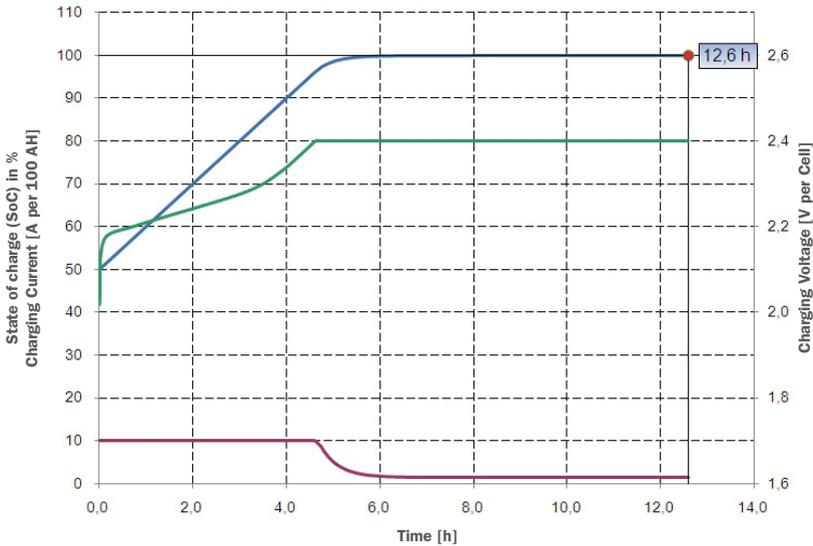
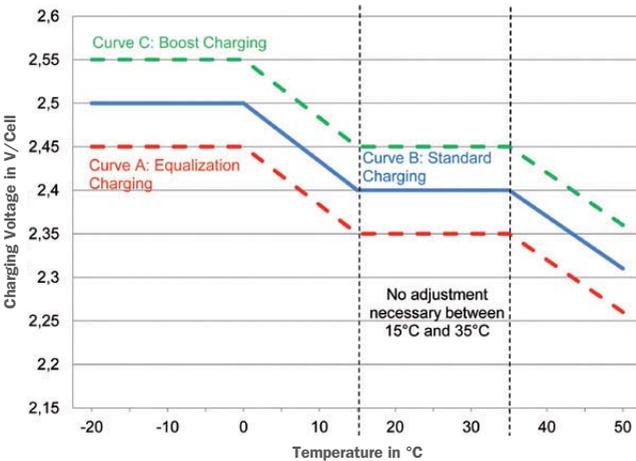

Fig. 7-1: Charging characteristic of OPzB solar power cell at 50% DoD
Fig. 7-2: Charging voltage as a function of temperature in solar cycling operation
The chart below (refer to fig 7-1) demonstrates the OPzV solar.power recharge characteristic (IU-characteristic) after a discharge of 50% DoD (Depth of Discharge).
Charging procedure shall be compliant to IU- or IU₁ – characteristic (refer to example fig. 7-1.). Recommended charging voltages for cyclical applications² are depicted in fig. 7-2.
- Boost charge (charger equipped with two-stage controller): Charge with boost charge voltage (refer to curve C in fig. 7-2) for max. 2 hours per day. The charging voltage has to be reduced after max. 2 h in boost voltage stage (refer to curve A in fig. 7-2). Charging current should range at 5 A to 20A3 per 100 Ah battery capacity (C₁₀). After the charging current has reached 1 A/100 Ah battery capacity (C₁₀) the charging voltage needs to be adjusted to normal float charge voltage for standby batteries as given in the HOPPECKE operating instructions (2.25 V/cell at temperature between 15 °C and 35 °C).
Charge with standard charge voltage (refer to curve B in fig. 7-2). Charging current should range at 5A to 20A3 per 100Ah battery capacity (C₁₀). After the charging current has reached 1A/100Ah battery capacity (C₁₀) the charging voltage needs to be adjusted to normal float charge voltage for standby batteries as given in the HOPPECKE operating instructions (2.25 V/cell at temperature between 15 °C and 35 °C).
- Max. 2.4 V/Cell up to 48 hours (refer to curve A in fig. 7-2).